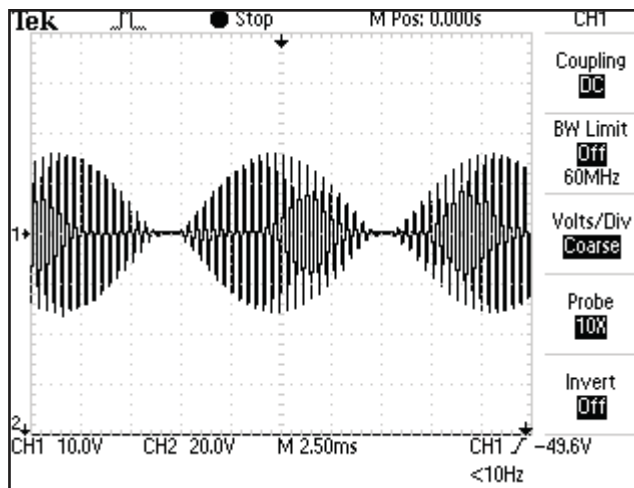

FIGURE 4.7
F. IFC (Interferential) Premodulated (2p)- Figure 4.7 (Vectra Genisys, Intellect Legend XT and Intellect Vet)